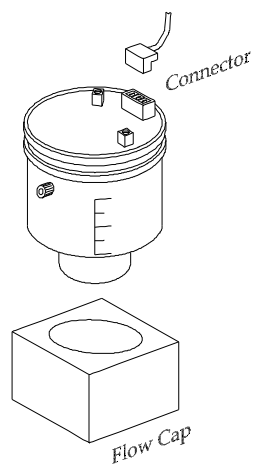

Fig. 4.2.2
4. Remove the gas sensor from the flow chamber (Fig. 4.2.2) by pulling it straight upwards. Do not twist the gas sensor while removing it, as this may cause the retaining ring to loosen.